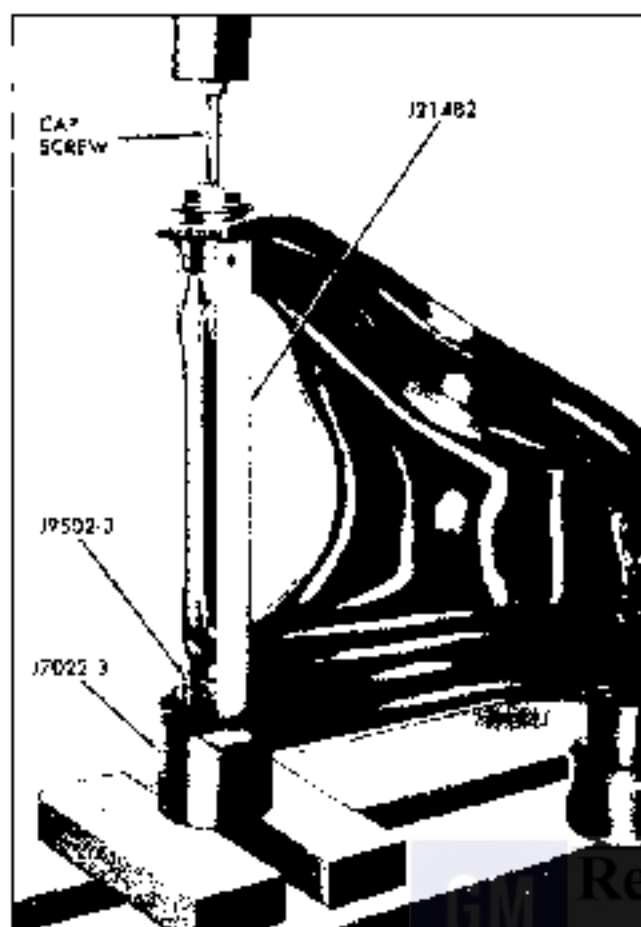

Fig. 3-12 Removing Upper Control Arm Bushing (Firebird)
3. Support control arm in an arbor press on tool J 22899 and J 21402-7 as shown in Fig. 3-12.
4. Press out bushing using tools shown in Fig. 3-12, invert control arm and repeat process on other bushing. Discard bushings.
NOTE: If bushing rubber is deteriorated to the extent that the bushing sleeve cannot be pushed out, release the press, install J 8502-3 as shown in Fig. 3-12 and press out the sleeve.